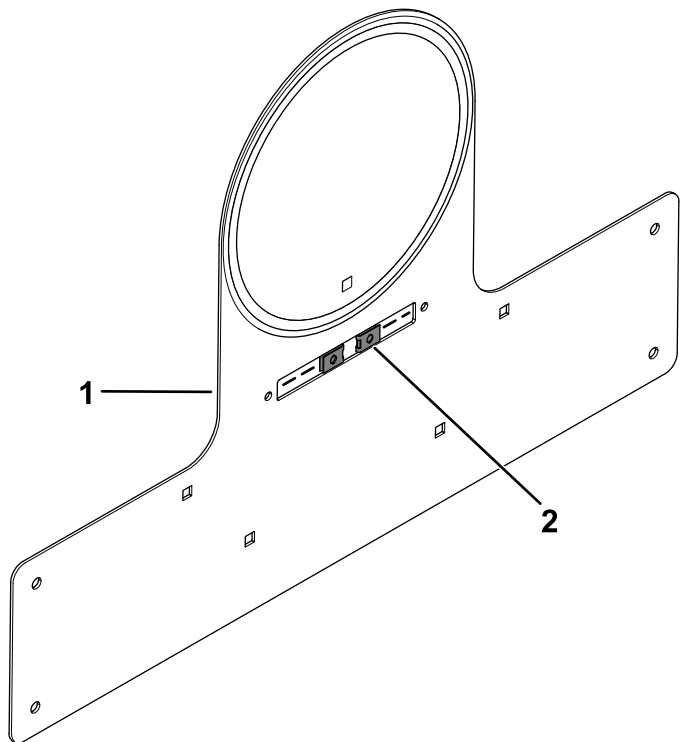

Figure 26
- Install the 2 speed nuts to the speed-plate mount (Figure 26).